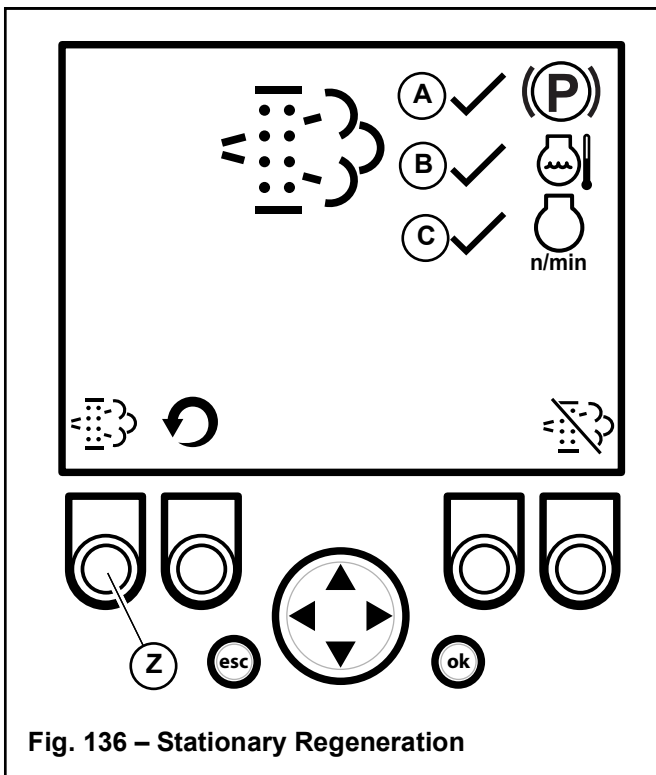
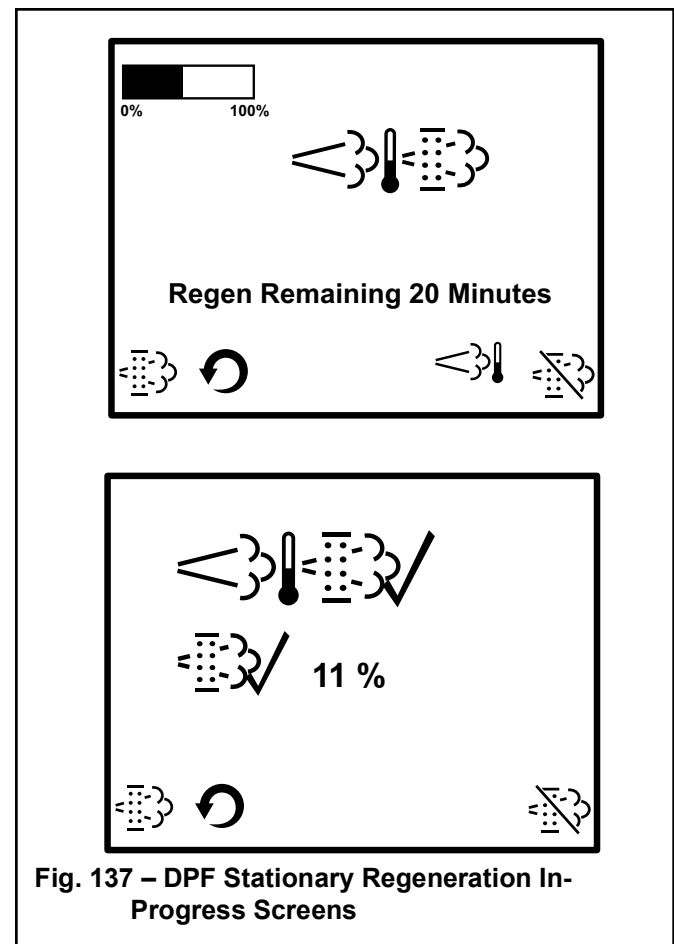

Fig. 136 – Stationary Regeneration
Fig. 137 – DPF Stationary Regeneration In-Progress Screens
- a. Apply the parking brake by raising the parking brake lever (refer to “Attachment Mounting” on page 91). A checkmark is displayed next to the parking brake symbol (A, Fig. 136).
- b. When engine coolant has reached operating temperature (approximately 140° F / 60° C), a checkmark is displayed next to the coolant temperature symbol (B).
- c. Place throttle controls to the lowest speed setting. A checkmark is displayed next to the engine RPM (C) symbol when the engine is running at low idle.
4. When all three checkmarks (A, B, & C, Fig. 136) are displayed on the Stationary Regeneration screen, press and hold button (Z) until the Stationary Regeneration In-Progress screen (Fig. 137) displays.